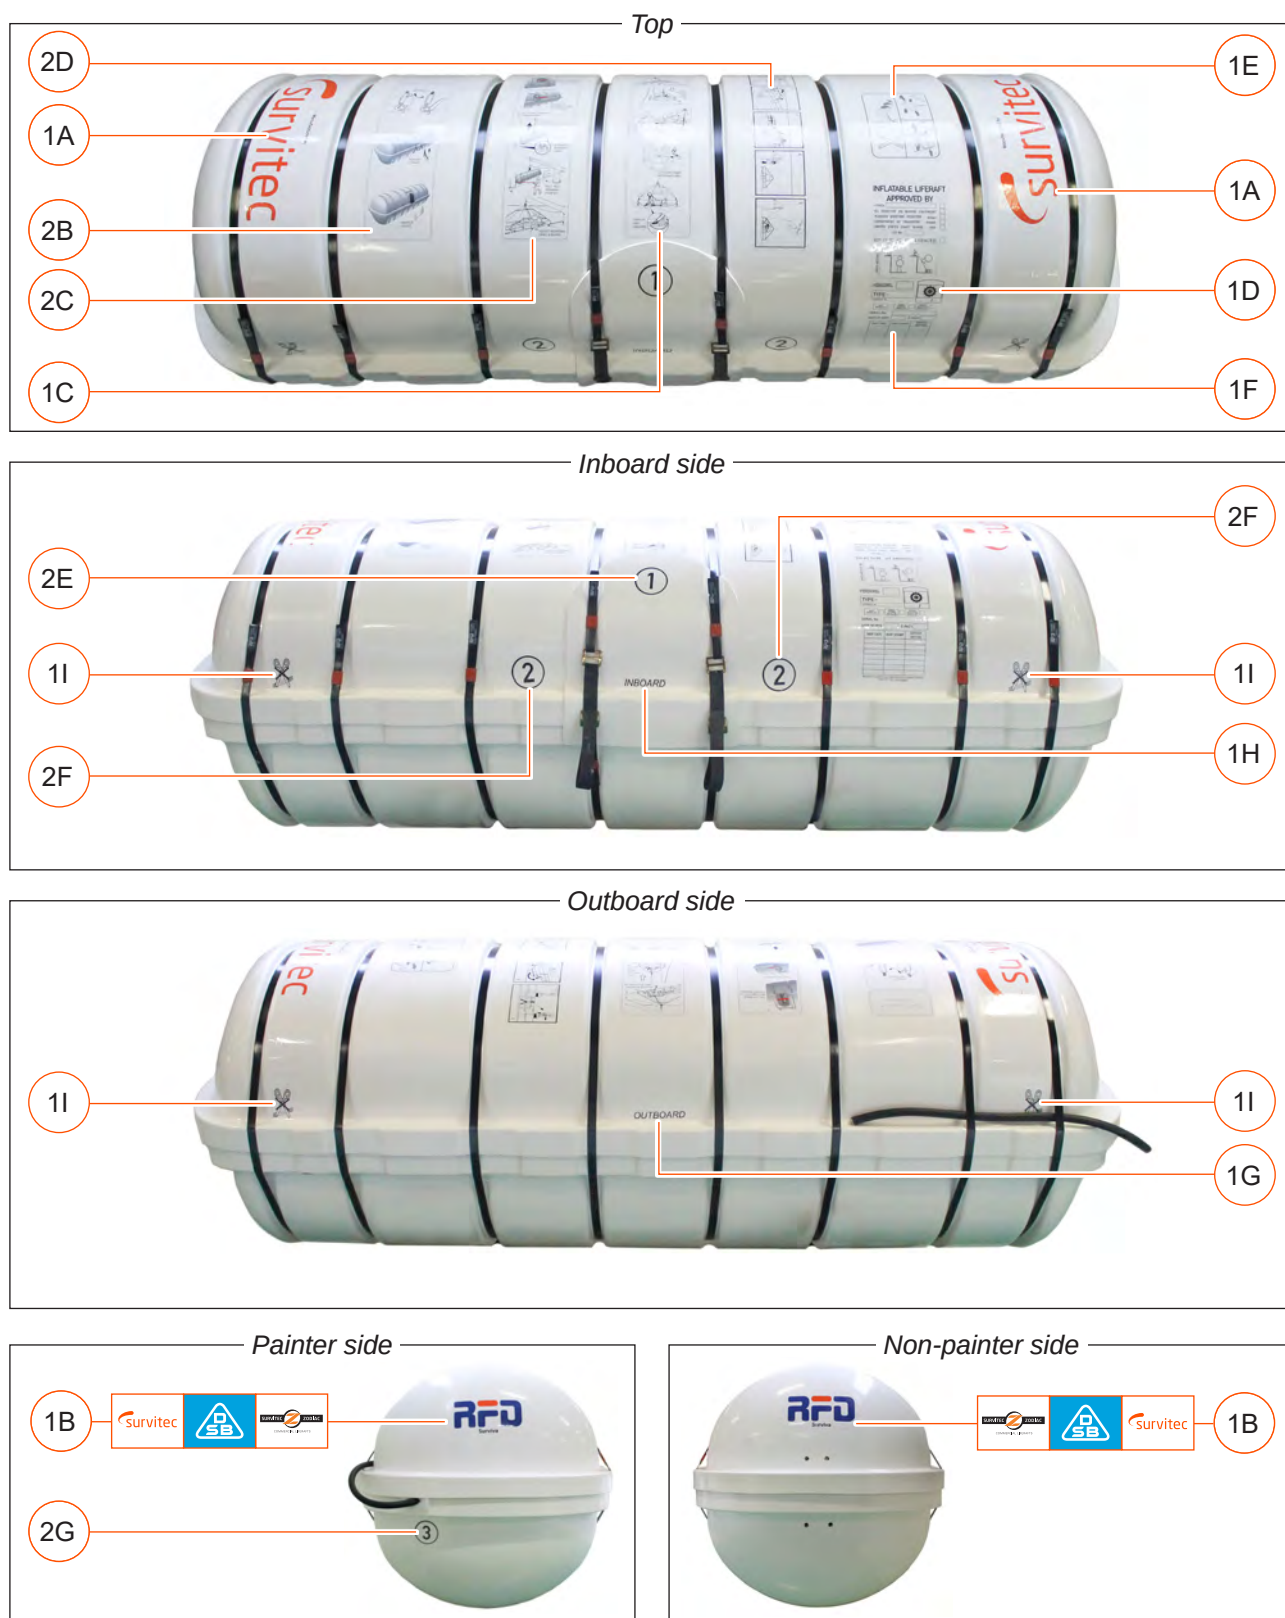

Figure 17
- Mk 10 size 7 and 9. Refer to **Figure 17** for label positions.